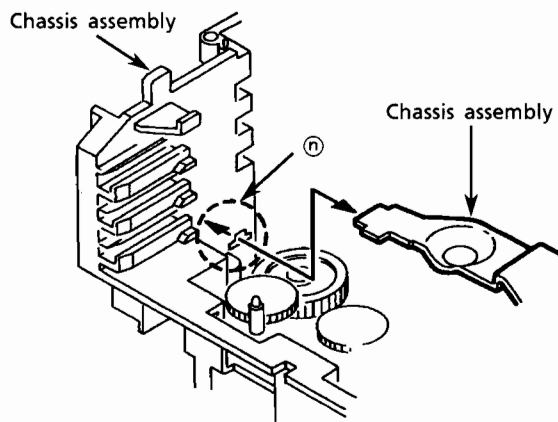

Fig. 45
3. Remove the gear bracket from the chassis ass'y's \textcircled{N} securing top of the gear bracket. (See Fig. 45.)